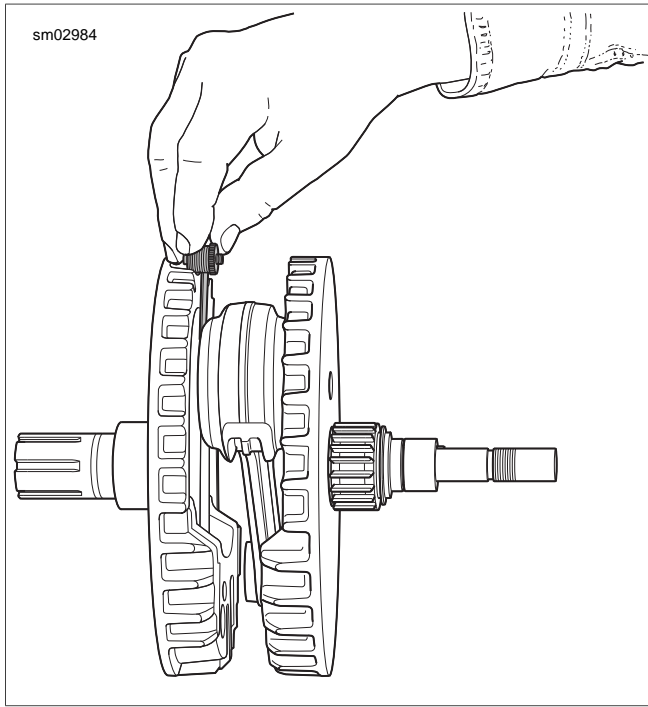

Figure 3-134. Checking Connecting Rod Side Play
- See Figure 3-134. Check connecting rod side play with a thickness gauge as shown.